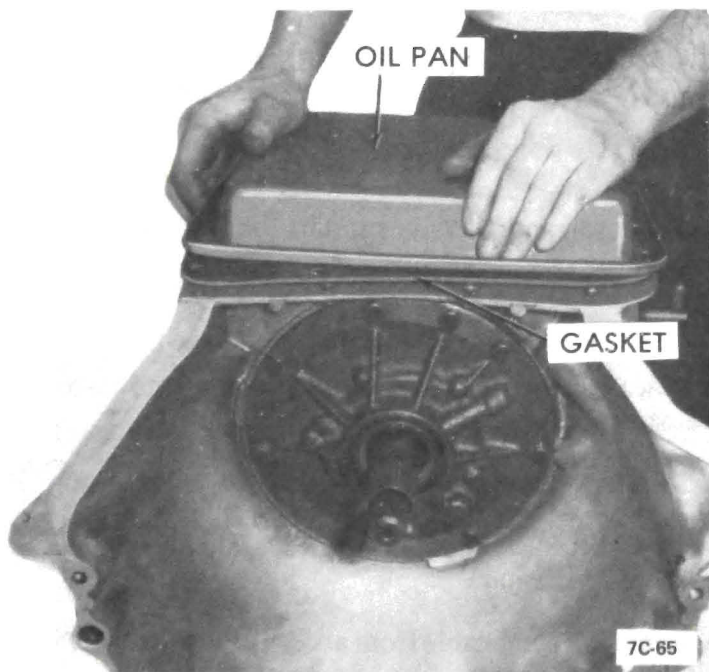

Figure 7C-23
1. Remove (13) oil pan attaching screw and washer assemblies, oil pan, and gasket. See Figure 7C- 23.